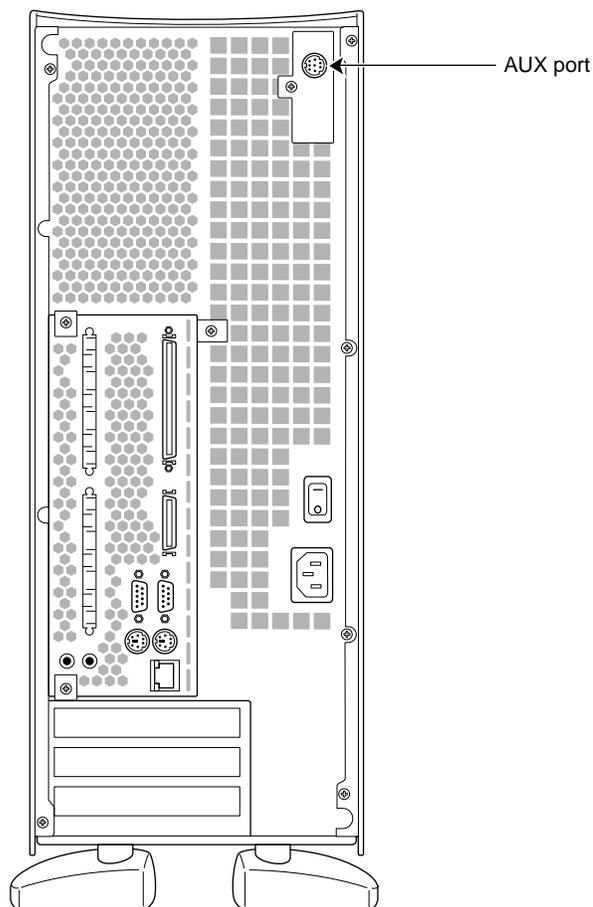

Figure 4-8 Location of the AUX Port
Figure 4-8 shows the location of the AUX port.
1. Plug the DIN-8 connector into the AUX port at the back of the system. See Figure 4-8 for the location of the AUX port.